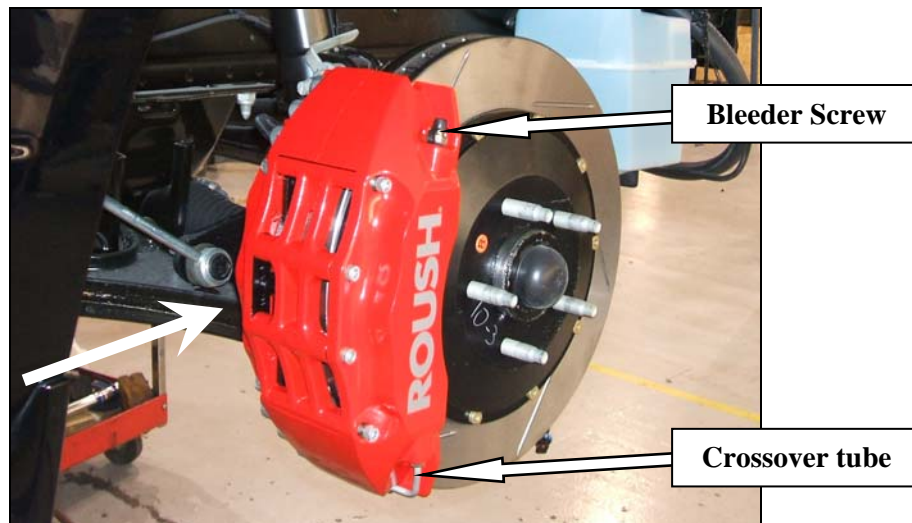

Figure 12
4. Obtain the left side caliper. The calipers have small orange stickers with 'R' and 'L' for their perspective sides. Remove the Styrofoam shipping blocks from inside the calipers and slide the caliper over the rotor and the Caliper Bracket studs. Refer to Figure 12.